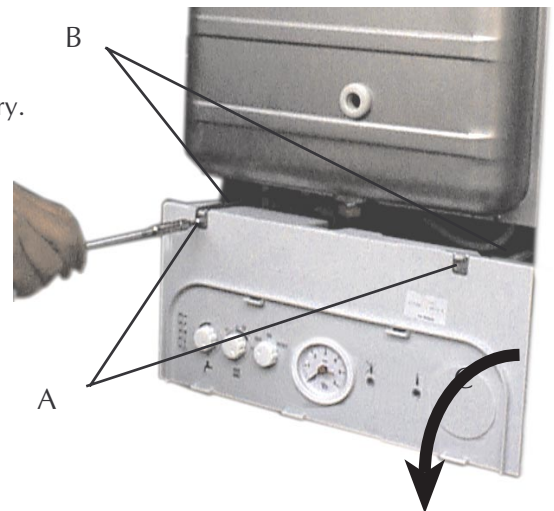

Fig. 27
### 7.03 To lower the control panel (fig. 27)
- Remove the two fixing screw (fig. 27) "A"